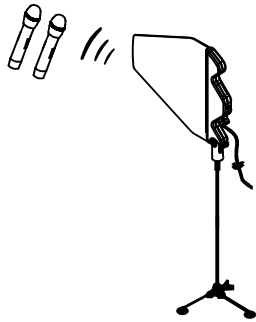

Fig. 2: Mounted on an optional microphone tripod
1. Set the base on any 35 Ø tripod or on top of MIPRO's MS-90 wall-mounting kit and tighten, Fig. 2, 3.